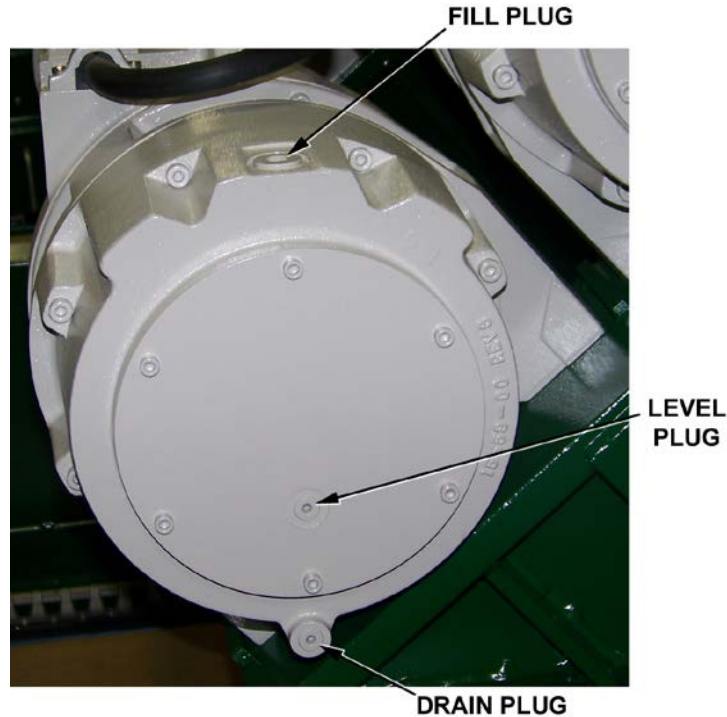

Figure 7. Oil Drain and Fill Plugs
4. Place a suitable container below one drain plug to receive used oil (Figure 7). Each end of motor contains 1.5 quarts (1.42 liters), for a total of 3 quarts (2.84 liters). To avoid spillage, the container should have a capacity of at least 1.75 quarts (1.7 liters).